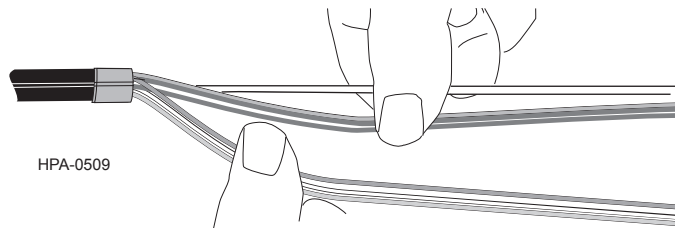

Figure 24
**Step 10:** Working from the switch back center back to the tape wraps, carefully unwind the buffer tubes from around the central member of the cable (Figure 24). Be careful not to bend or kink any of the buffer tubes.